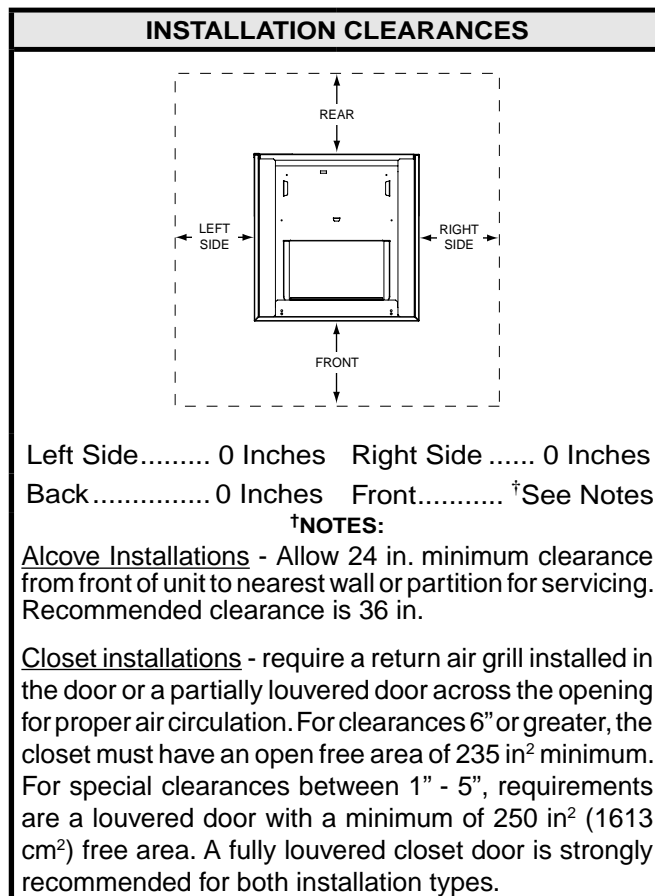

Figure 1. Minimum Unit Clearances
- The dimensions of the room or alcove must be able to accommodate the overall size of the unit and the installation clearances listed in Figure 1. Physical dimensions for this air handler are also shown in Figure 11 (page 16).
- This appliance must be installed in accordance with clearances listed in Figure 1. The air handler must be installed with ample clearance for easy access to the air filter, blower assembly, heater assembly, controls, and vent connections.
The B5 Series Air Handler is shipped ready for vertical upflow installation and is approved for attic, basement, alcove / closet or crawlspace installation with zero clearance to combustibles. See Figure 1 (page 4) for required installation clearances. **This appliance is only for indoor use.**